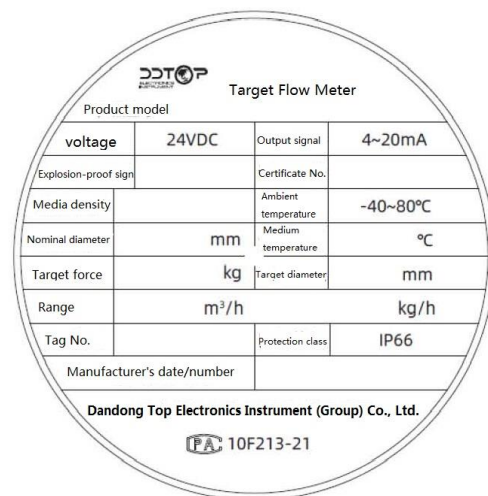

Figure 4 Product nameplate
5.1.1 Check whether the product nameplate (Figure 4) is consistent with the supply list information.